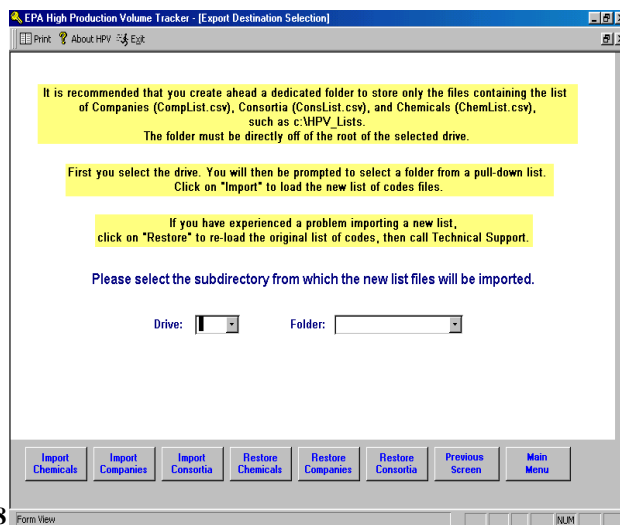

Figure 18
5. Import Chemical, Consortia and Company (left buttons on the bottom of Figure 18)- allows users to import updated HPV chemical, consortia and company lists. This feature will be useful in the future when updated lists can be downloaded from the EPA website.